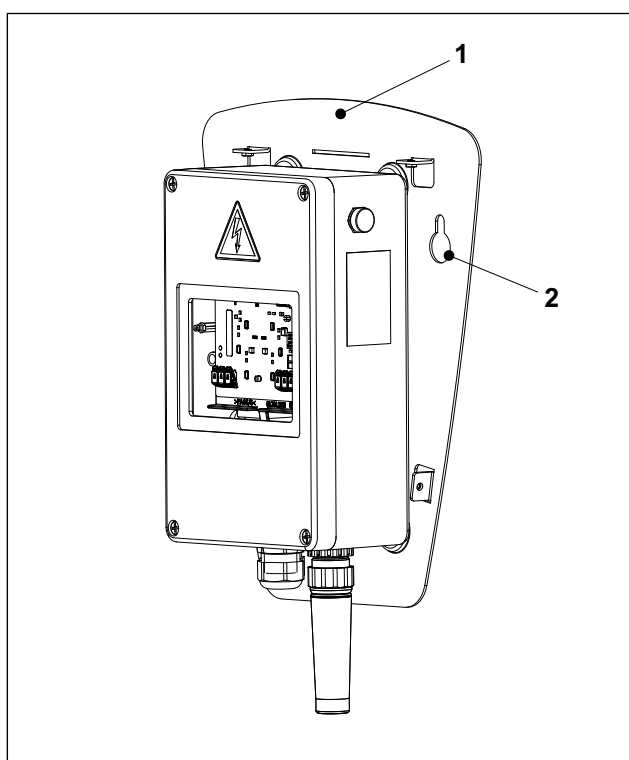

Fig. 2 Wallbox Energy Control, mounting plate
4. Hang the mounting plate (Fig. 2/1) of the Wallbox on the two fastening screws (slotted holes, Fig. 2/2).